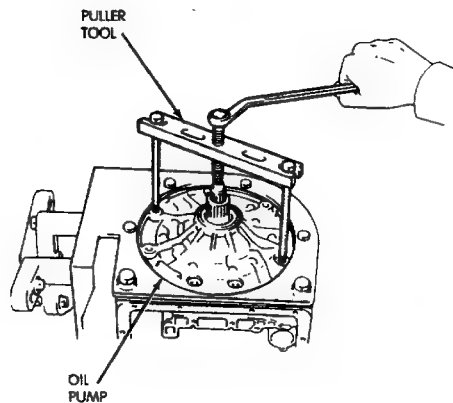

Fig. 15 Removing Oil Pump
(22) Remove throttle cable.
(23) Remove oil pump bolts and remove pump with bridge-type puller B.Vi. FM. 25 (Fig. 15).